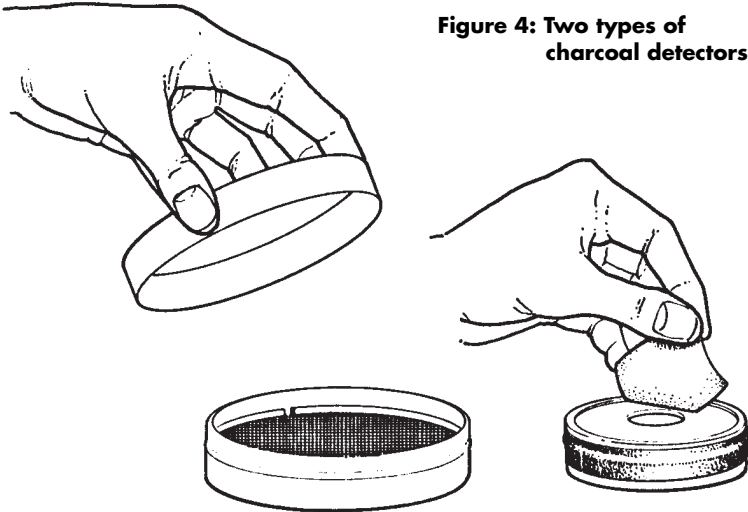

Figure 4: Two types of charcoal detectors
- **Charcoal Detectors** – These devices consist of a container filled with charcoal and covered with a screen and filter (see **figure 4**). They are exposed to the air in your home for a specified time period (usually 2 to 7 days), sealed and then sent to a laboratory for analysis.